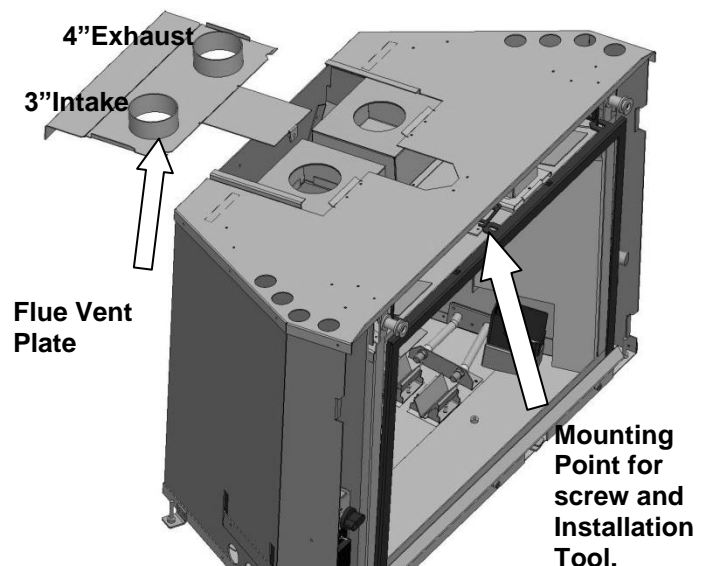

Figure 18
3. Using a Phillips head screwdriver, remove the screw holding the front of the Flue Vent Plate to the firebox. Push the plate carefully back and out of the retaining tracks – take it off the stove as shown (see Figures 18 & 19). Keep this screw, as you will need it later to remount the plate.